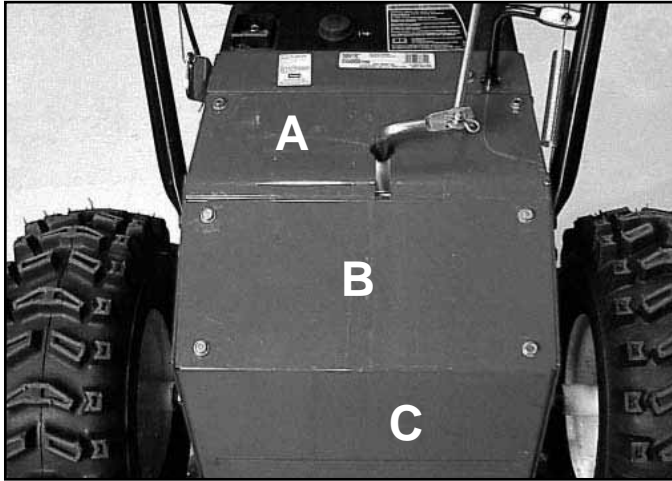

Fig 100 MVC-9012X.jpg
2. Remove the upper and lower covers and bottom pan (Fig. 100).